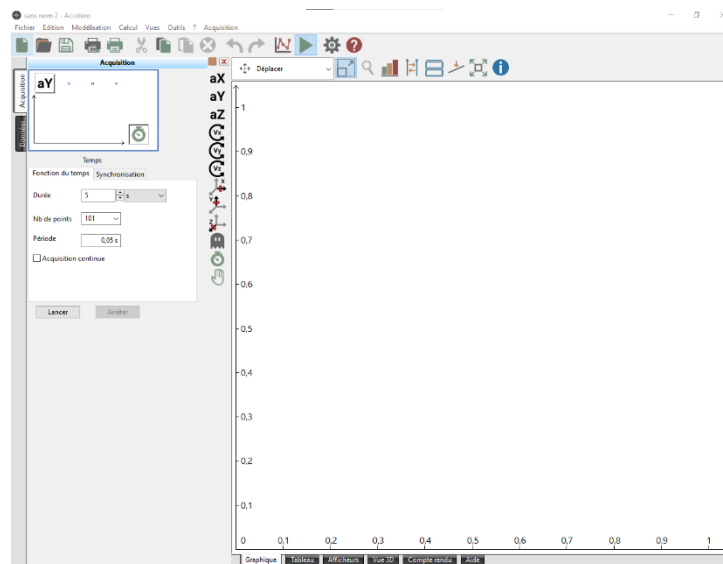

Figure 8 : Software interface
- Drag and drop Y-acceleration **aY** on ordinate axis, and time on abscissa axis. Here, the horizontal acceleration is oriented along the Y-axis (figure 8).